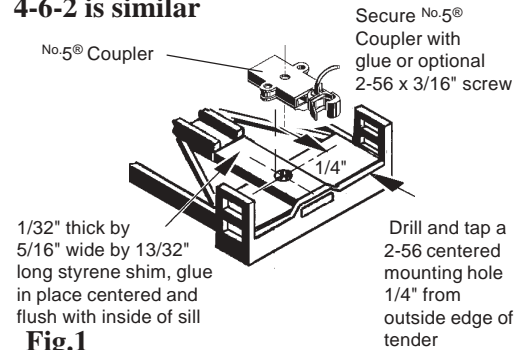

Fig.1
2. Make a shim from 1/32" thick styrene, 5/16" wide by 13/32" long. Glue in place on tender flush with inside edge of end sill and on centerline. After glue is dry, drill and tap a hole for 2-56 threads, on centerline and 1/4" from the outside edge of tender. See Fig.1.